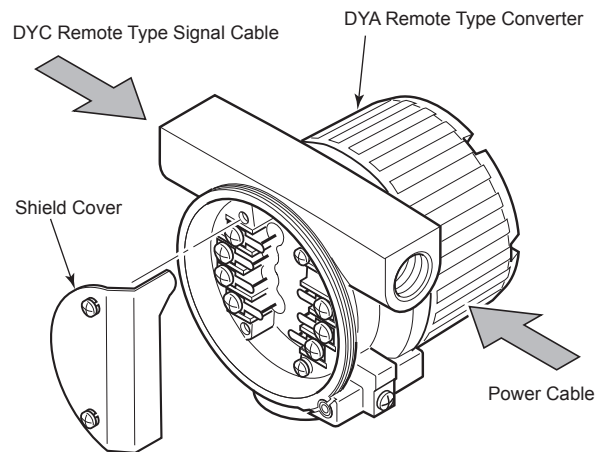

Figure 4.7 Shielded Cover
- After completing the signal cable connections, install the shielded cover to signal cable terminal as shown in Figure 4.7.